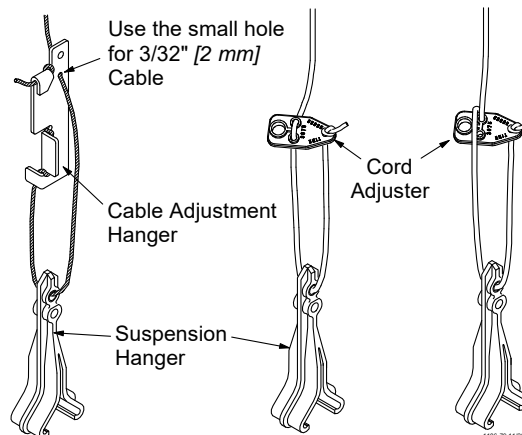

Figure 13. Cable Drop Installation
8. Cable drop installations: Install an adjustment leveler on each drop line. (See figure 13).
Cord drop installations: Install a cord adjuster on each drop line. (See figure 13)..